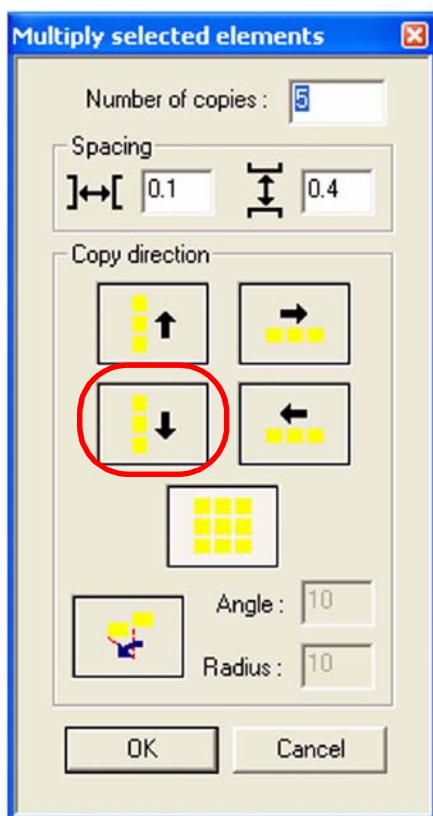

Figure 139
- 2 Right-click on the workspace and click **Multiply** on the menu that opens. When you do, the **Multiply selected elements** box opens. See figure 139.